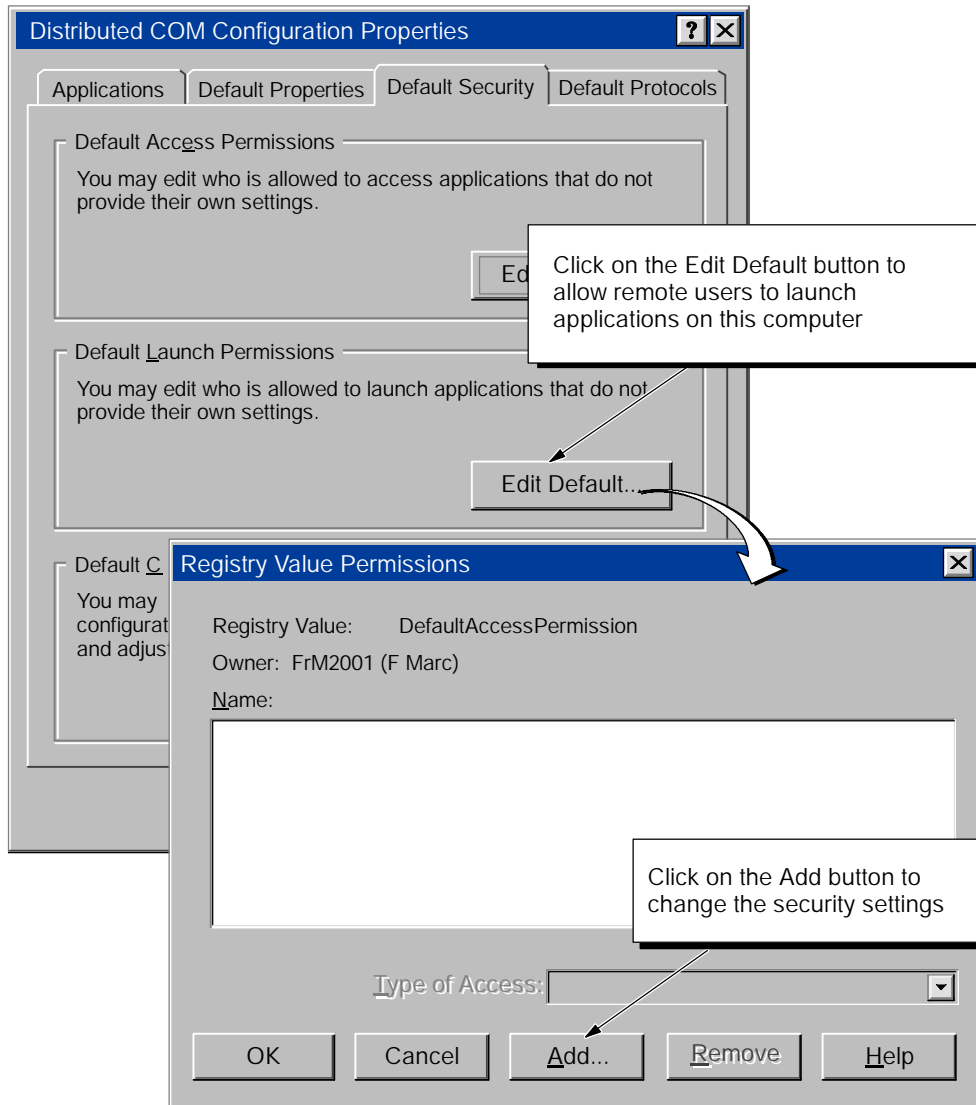

Figure D-16 Configuring the Default Launch Permissions for DCOM
1. Click on the Edit Default button for "Default Launch Permissions" to display the Registry Value Permissions dialog box. See Figure D-16.